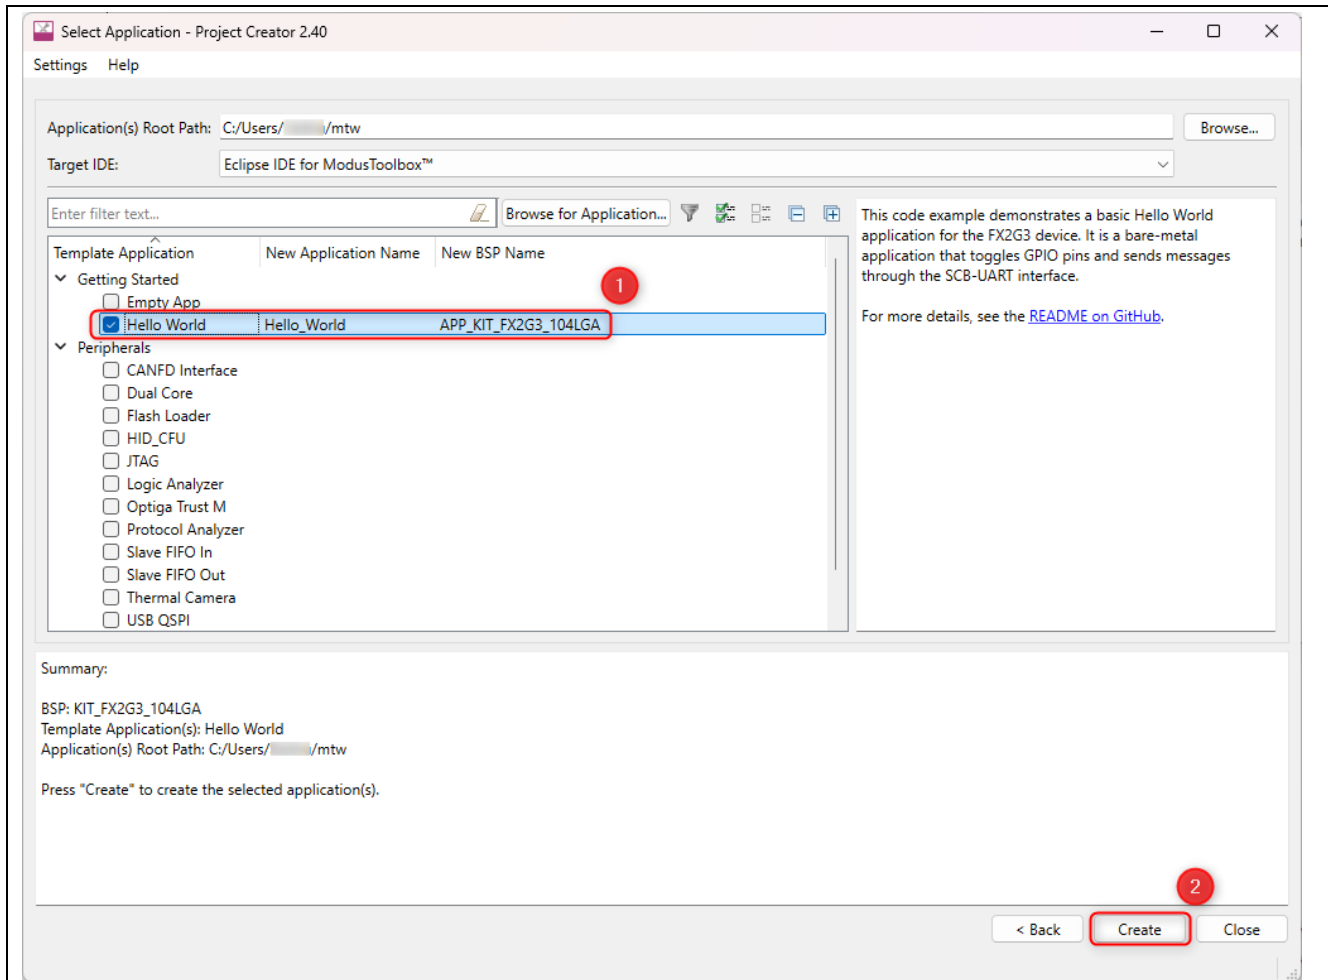

Figure 5 Selection of an application
- To create an application, choose the desired template from the list of available applications, as shown in Figure 5, and click on **Create**